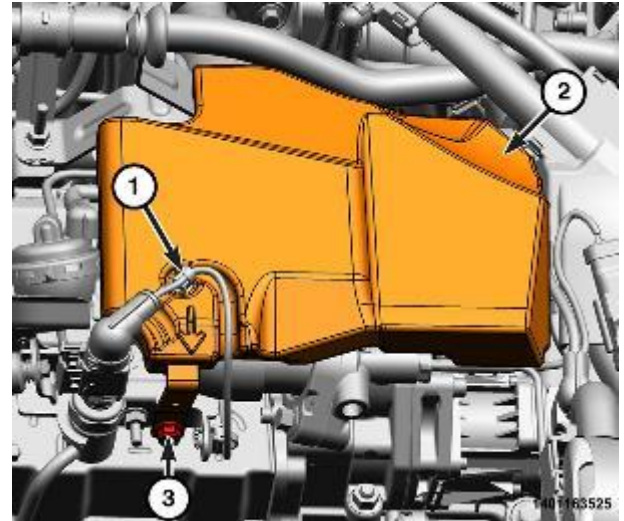

Figure 184 – Right Fuel Rail Cover
- 24. Loosen the right fuel rail cover nut (3), detach the wire harness retainer (1), and remove the fuel rail cover (2) (Figure 184).